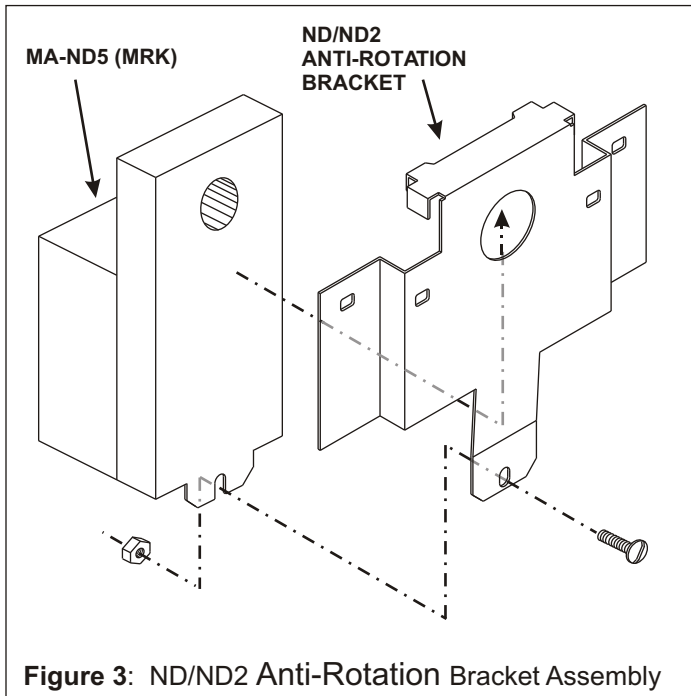

Figure 3: ND/ND2 Anti-Rotation Bracket Assembly
- MODEL ND & ND2 STYLE DAMPERS (Figure 3)**